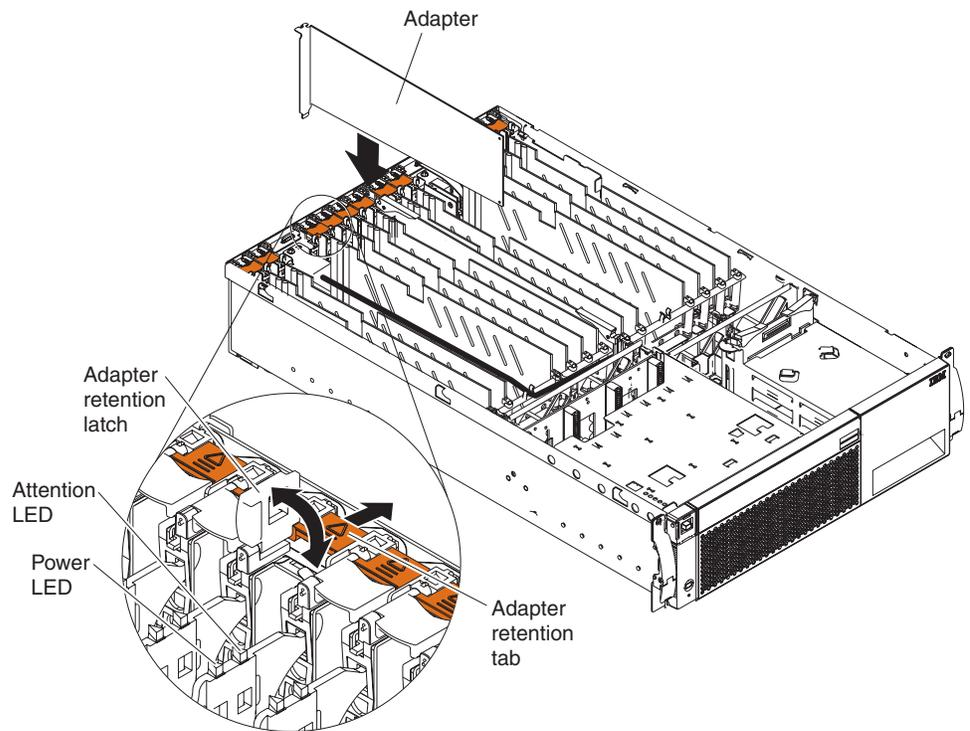

Figure 15. Installing an adapter
6. Using Figure 15 on page 35 as a reference for the rest of this procedure, slide the adapter-retention tab toward the rear of the enclosure and lift the adapter-retention latch.